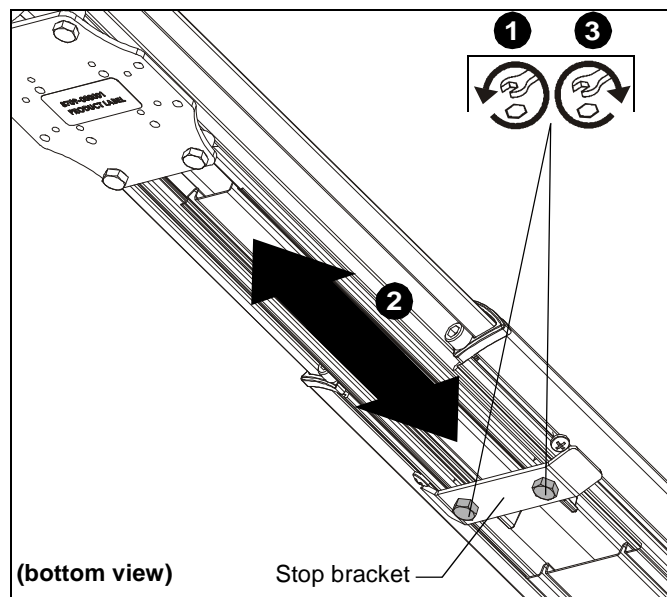

Figure 25
1. Loosen two bolts holding stop bracket in place on underside of short throw projector mount. (See Figure 25)
2. Adjust mount to desired extension length. (See Figure 25)
3. Tighten two bolts holding stop bracket to secure mount in desired position. (See Figure 25)